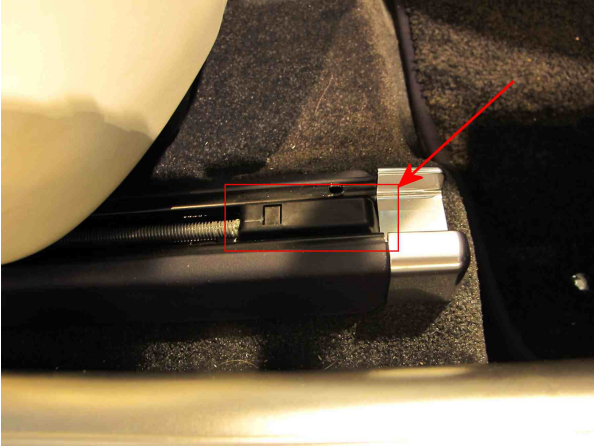

Figure 11
**NOTE:** The front seat bolt fixing covers (Figure 11) should be discarded once removed as new parts are supplied as part of this procedure.